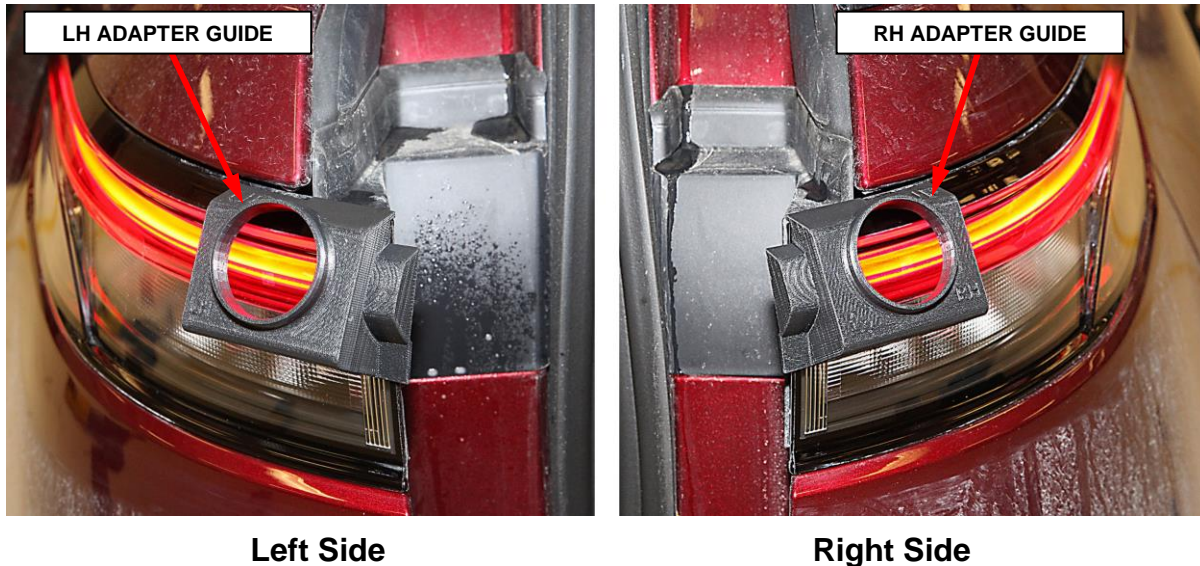

Figure 3 – Position the Lux Light Meter Adapter Guide on the Taillamp
- Position the Right-Hand or Left-Hand lux light meter Adapter Guide on the taillamp up against the locators so that the guide is fully seated and holds itself in place (Figure 3).